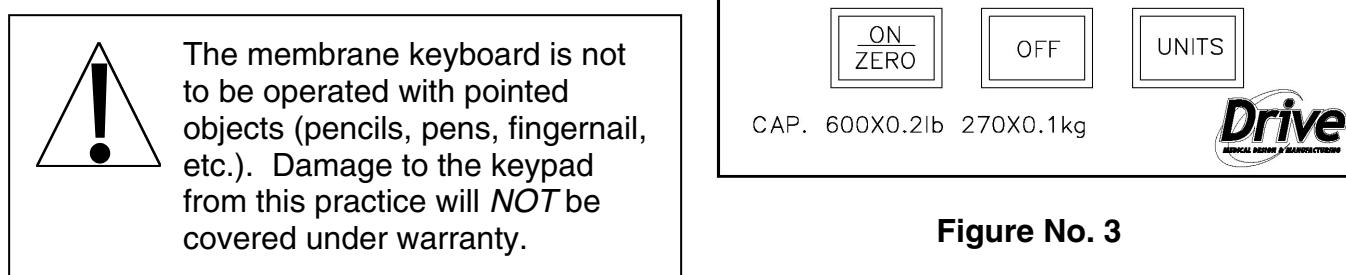

Figure No. 3
The PL600DM Patient Lift Scale Indicator has a membrane keypad containing three (3) keys. The keypad is shown in Figure No. 3. The following describes the use of each key: